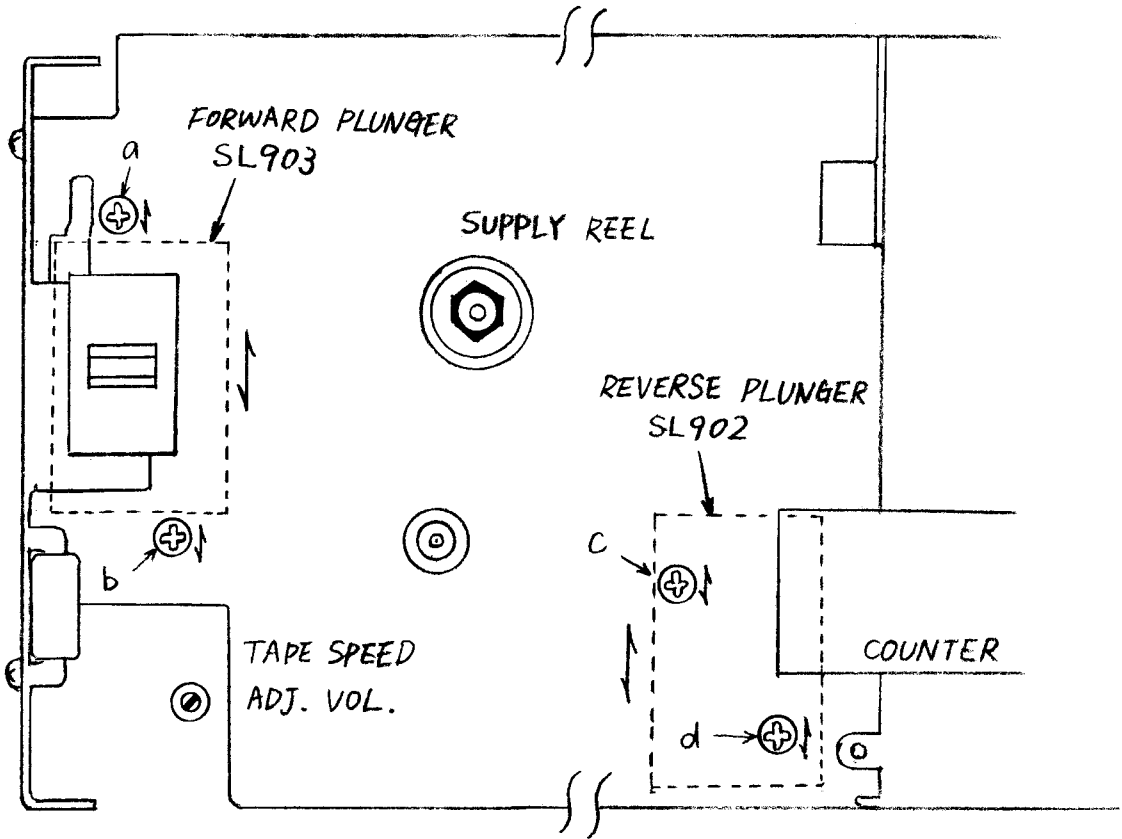

Fig. 3-1
1) Forward Plunger Adjustment (Refer to Figs. 3-1, 3-2)
3) Reverse Plunger Adjustment (Refer to Figs. 3-1, 3-3)
4. TAPE SPEED ADJUSTMENT (Refer to Fig. 3-1)